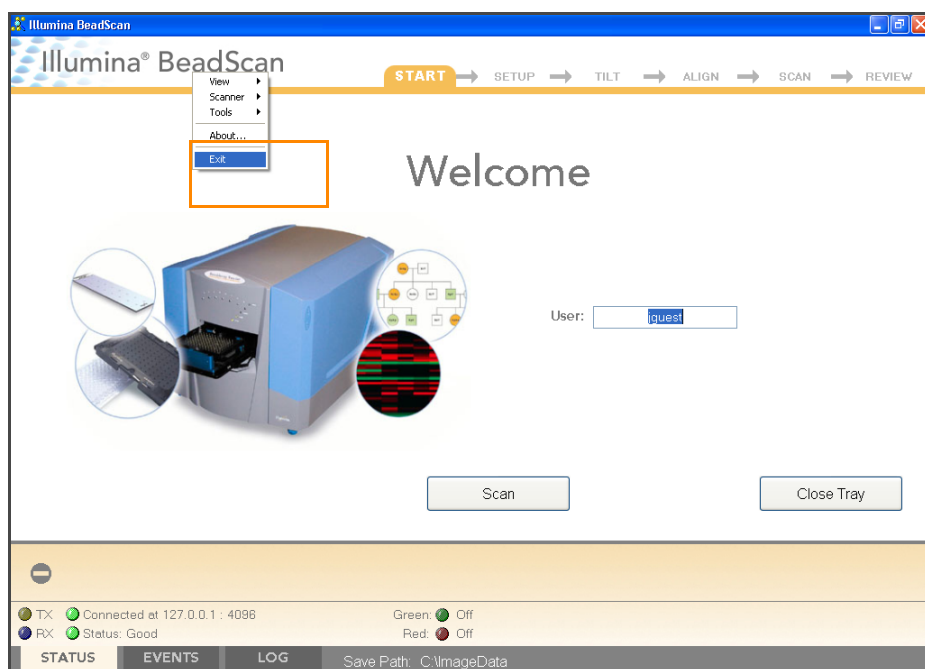

Figure 54 Exit the BeadArray Reader Software
- d. Shut down the BeadArray Reader BeadScan software. To exit, right-click near the Illumina logo and click **Exit** (Figure 54).